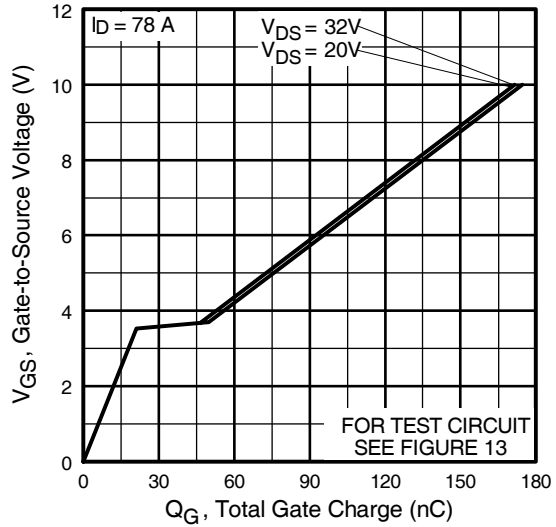

Fig 6. Typical Gate Charge Vs. Gate-to-Source Voltage
| Q gd                        | Gate-to-Drain ("Miller") Charge      | —    | —    | 43     |       | V GS = 4.5V, See Fig. 6 and 13 ④  |